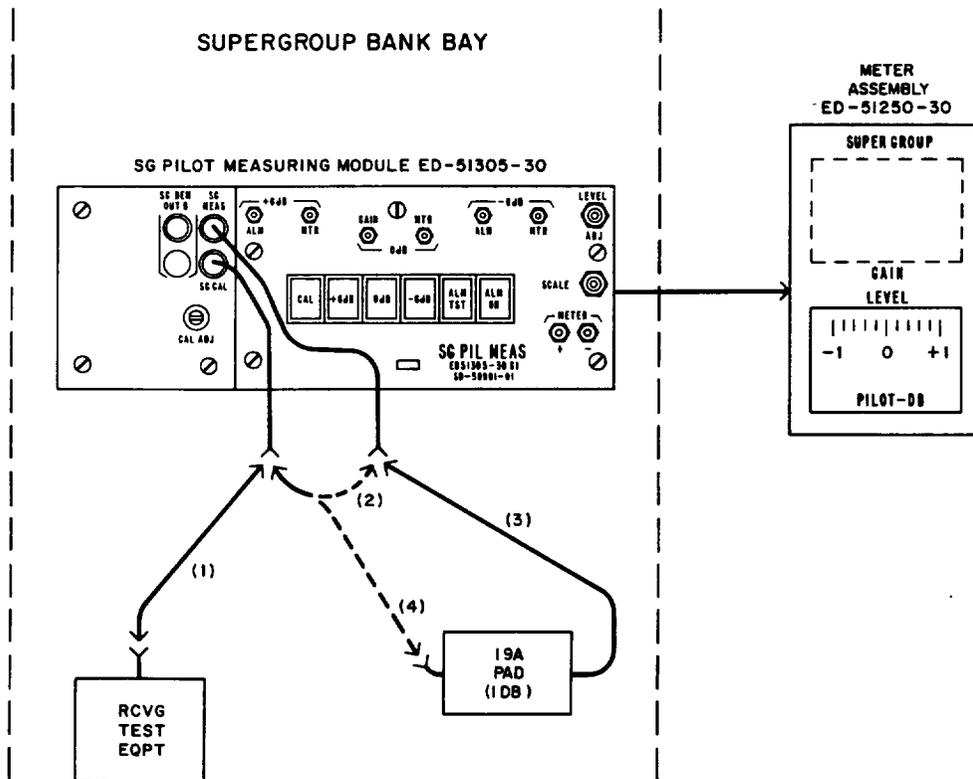

Fig. 1—315.92 kHz Pilot Measuring Circuit Calibration For J68918 Scanner
- 2 Connect the RTE to the SG CAL jack [patch (1), Fig. 1].
- 5 Remove patch (1), Fig. 1.
- 6 Remove the patch plug between the SG DEM OUT B and SG MEAS jacks and insert this patch plug between the SG CAL and SG MEAS jacks. [patch (2), Fig. 1].
10	(a) Connect the 1-dB pad between the SG CAL and SG MEAS jack [patches (3) and (4), Fig. 1].  or  (b) Readjust the CAL ADJ control to obtain $-49.2$ dBm at the SG CAL jack and then replace the patch plug between the SG CAL and SG MEAS jacks.  Note: The 315.92-kHz signal applied to the SG MEAS jack is 1 dB below nominal at this time.